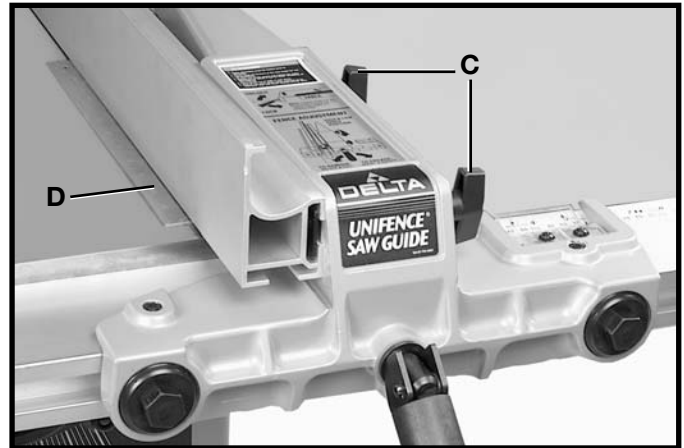

Fig. 76
2. For most cutting operations, the bottom of the fence should be positioned slightly above the table surface. Loosen two lock knobs (C) Fig. 76, and place a thin object such as a scale (D) between the table and fence. Tighten two lock knobs (C).